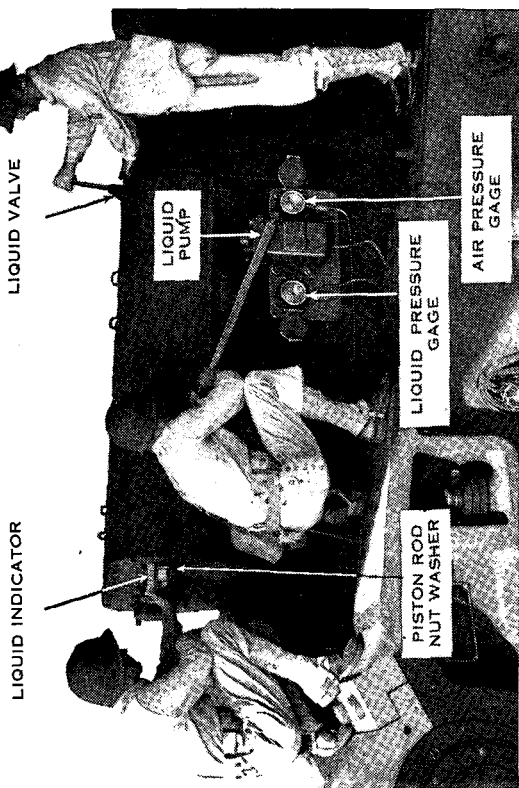

Figure 22. Filling the recuperator cylinders with liquid.
(2) Keep the amount of liquid in the recuperator cylinders within definite limits at all times. Visual indication of the amount of liquid in the recuperator cylinders is given by position of the washer (fig. 22) on the piston rod which protrudes from the front of each recuperator cylinder. Never allow the washer to reach points closer than $\frac{1}{2}$ inch ($\frac{3}{8}$ inch on the M1919 carriage) nor more than 5 inches from the piston rod outer gland. On the M1919M1, M2, M3, M4, and M5 carriages an indicator graduated in inches from 0 to 5 defines these limits. Whenever the recuperator system is being initially filled or the air pressure adjusted, care must be taken to see that the piston rod nut
b. To adjust the liquid volume. (1) *To replenish the recuperator cylinders* with liquid (the piston rod nut washer will be some distance above the $1\frac{1}{2}$ mark on the liquid indicator); use the liquid pump (fig. 22) which is on the left side of the cradle to the rear.
(c) Read the liquid pressure on the liquid pressure gauge, located on the left of the liquid pump (fig. 22). For the M1919 carriage the liquid pressure should be 1,950 pounds per square inch; for the M1919M1, M2, M3, M4, and M5, it should be 1,842 pounds per square inch.
(c) Read the air pressure in the air pressure gauge, located to the right of the liquid pump (fig. 22).